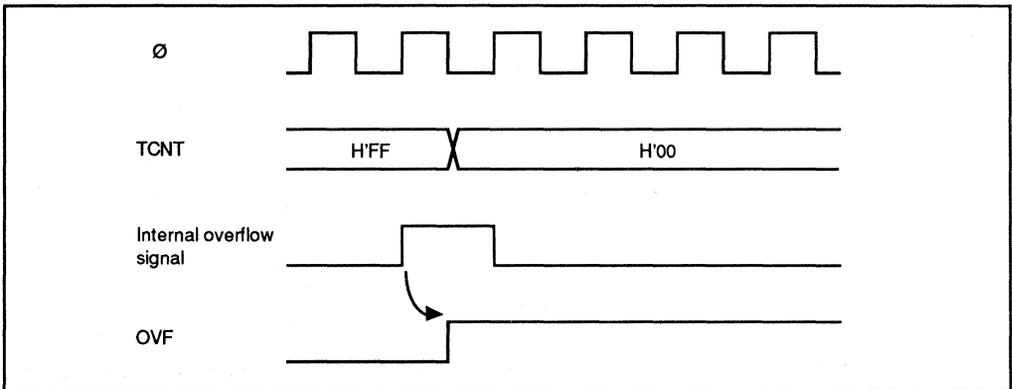

Figure 7-10. Setting of Overflow Flag (OVF)
(1) **Setting of TCSR Overflow Flag (OVF)**: The overflow flag (OVF) is set to “1” when the timer count overflows (changes from H'FF to H'00). Figure 7-10 shows the timing of this operation.